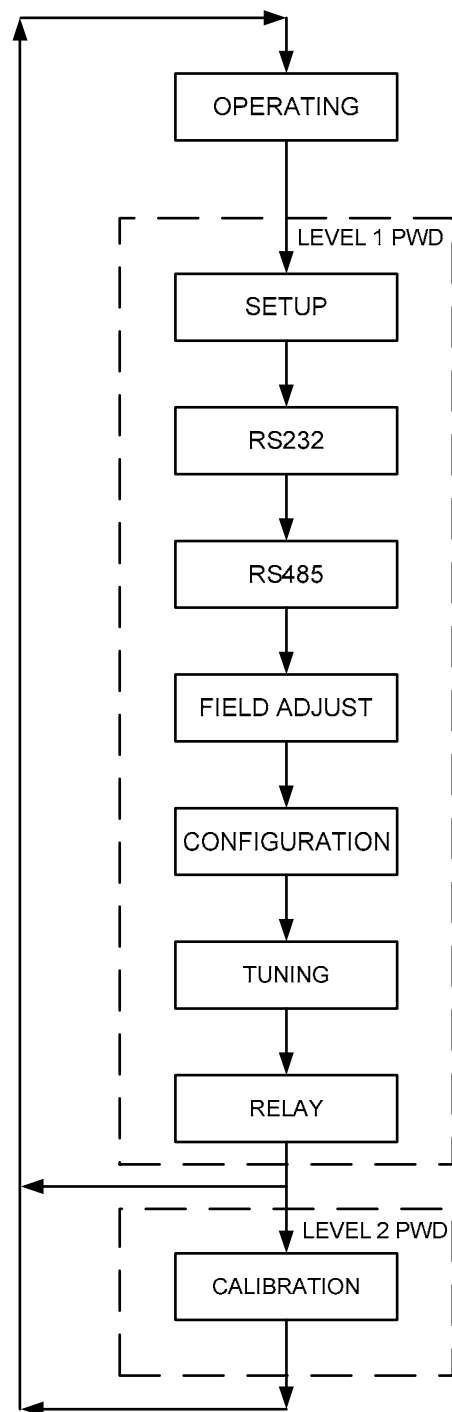

Figure 3-2. BMS II Menu Structure
The BMS II incorporates an extensive menu structure which permits the operator to set up, and configure the unit. The menu structure consists of nine major menu categories as shown in Figure 3-2. Each of the menus shown, contain options which permit operating parameters to be viewed or changed. The menus are protected by two different password levels to prevent unauthorized use. These passwords provide access as follows:
2. Press the **MENU** key. The display will show the Setup Menu which is the next menu category shown in Figure 3-2. This menu contains the Password option which must be entered if other menu options will be changed.
Paragraphs 3.4 through 3.12 provide detailed descriptions of the options contained in each of the menus shown in Figure 3-2. The menu options appear in the first line of the VFD display and the corresponding value or setting for the displayed option will appear in the second line of the display.